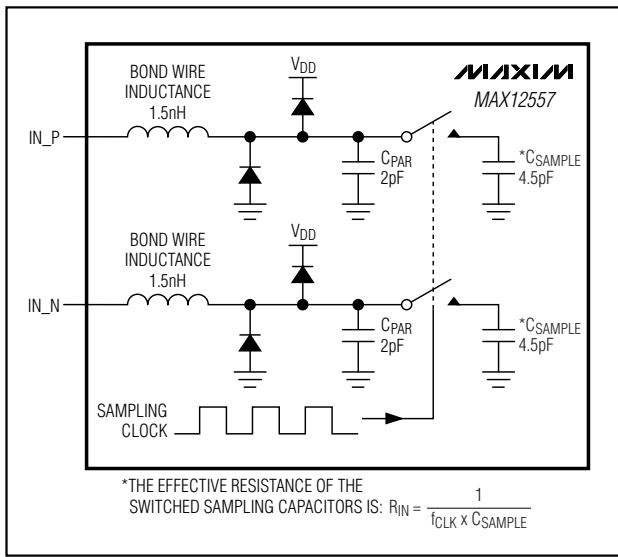
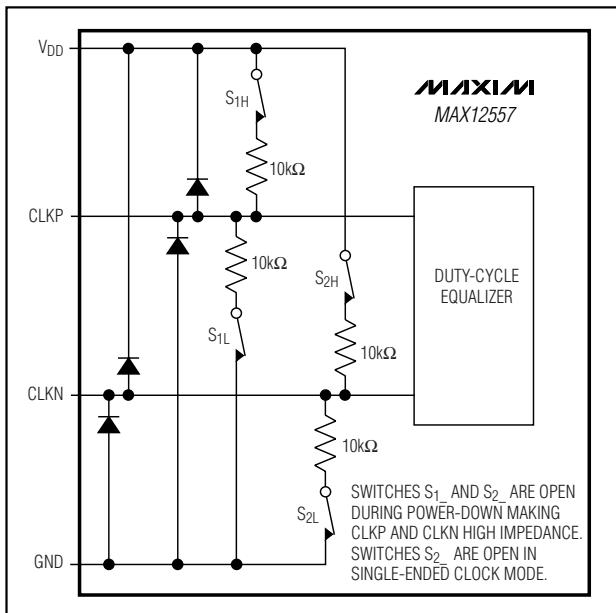

Figure 3. Internal T/H Circuit
Figure 4. Simplified Clock Input Circuit
Figure 3 displays a simplified functional diagram of the input T/H circuit. This input T/H circuit allows for high analog input frequencies of 175MHz and beyond and supports a $V_{DD} / 2$ common-mode input voltage.
The MAX12557 sampling clock controls the switched-capacitor input T/H architecture (Figure 3) allowing the analog input signals to be stored as charge on the sampling capacitors. These switches are closed (track mode) when the sampling clock is high and open (hold mode) when the sampling clock is low (Figure 4). The analog input signal source must be able to provide the dynamic currents necessary to charge and discharge the sampling capacitors. To avoid signal degradation, these capacitors must be charged to one-half LSB accuracy within one-half of a clock cycle. The analog input of the MAX12557 supports differential or single-ended input drive. For optimum performance with differential inputs, balance the input impedance of IN_P and IN_N and set the common-mode voltage to mid-supply ($V_{DD} / 2$). The MAX12557 provides the optimum common-mode voltage of $V_{DD} / 2$ through the COM output when operating in internal reference mode and buffered external reference mode. This COM output voltage can be used to bias the input network as shown in Figures 9, 10, and 11.
The MAX12557 accepts both differential and single-ended clock inputs with a wide 25% to 75% input clock duty cycle. For single-ended clock input operation, connect DIFFCLK/SECLK and CLKN to GND. Apply an external single-ended clock signal to CLKP. To reduce clock jitter, the external single-ended clock must have sharp falling edges. For differential clock input operation, connect DIFFCLK/SECLK to OVDD. Apply an external differential clock signal to CLKP and CLKN. Consider the clock input as an analog input and route it away from any other analog inputs and digital signal lines. CLKP and CLKN enter high impedance when the MAX12557 is powered down (Figure 4).
- 1) INAP/B, INAN/B analog inputs are disconnected from the internal input amplifier (Figure 3).
- 6) CLKp, CLKN clock inputs enter a high-impedance state (Figure 4).